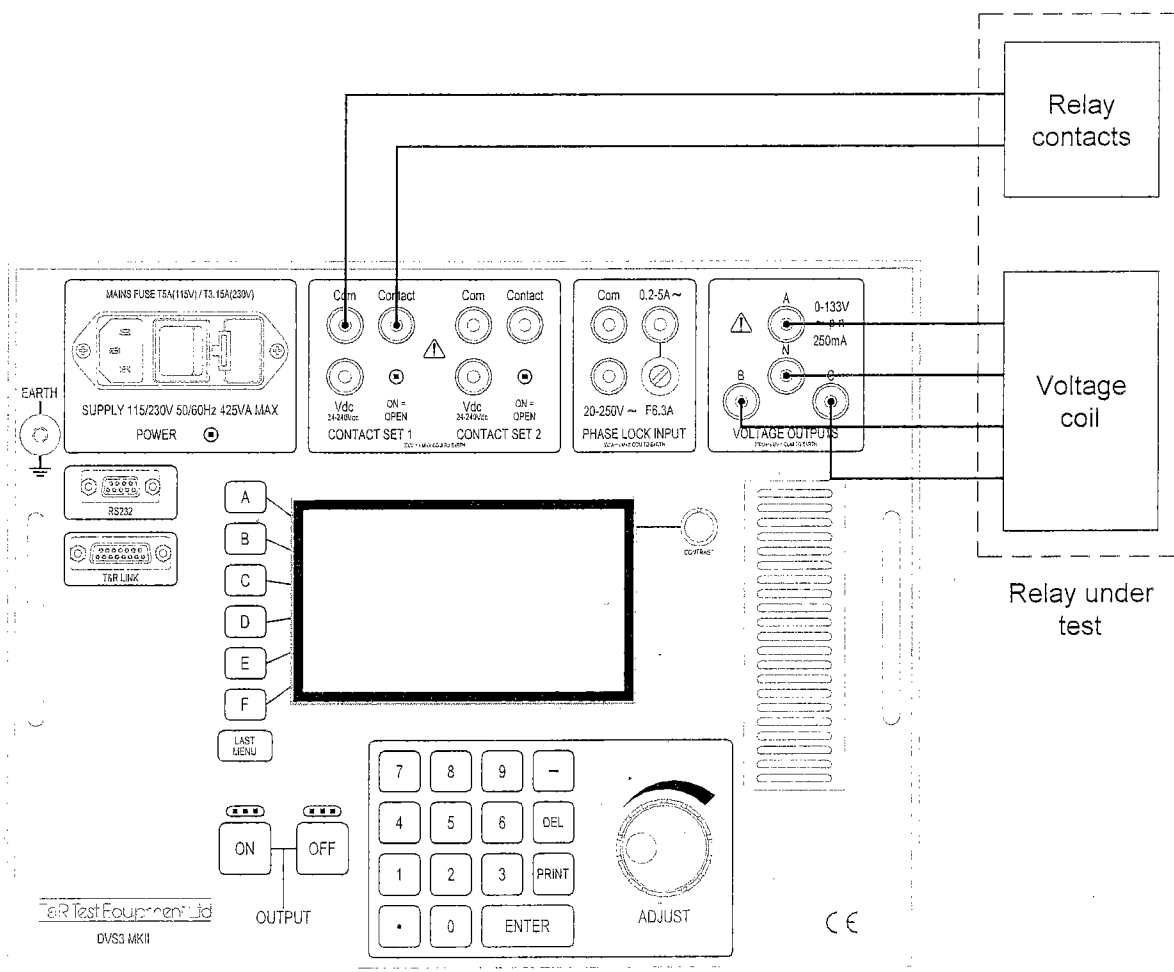

Figure 3.7 Connections for vector surge relays
- Connect an auxiliary supply to the relay if required (not shown in figure 3.7).